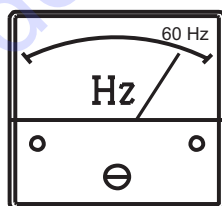

Figure 47. Frequency Meter
- The generator's frequency meter (Figure 47) should be displaying the 60-cycle output frequency in **HERTZ**.